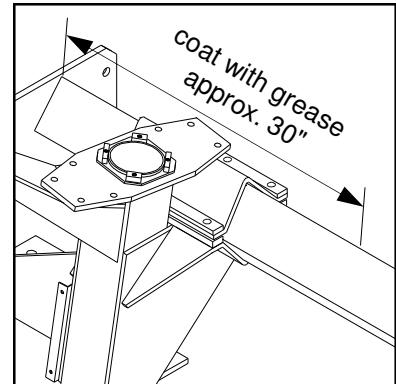

FIG 35-1
1. Make sure the nylon material on the tread adjustment brackets on both the front and rear legs has an adequately lubricated surface to slide on during an adjustment (fig. 35-1)